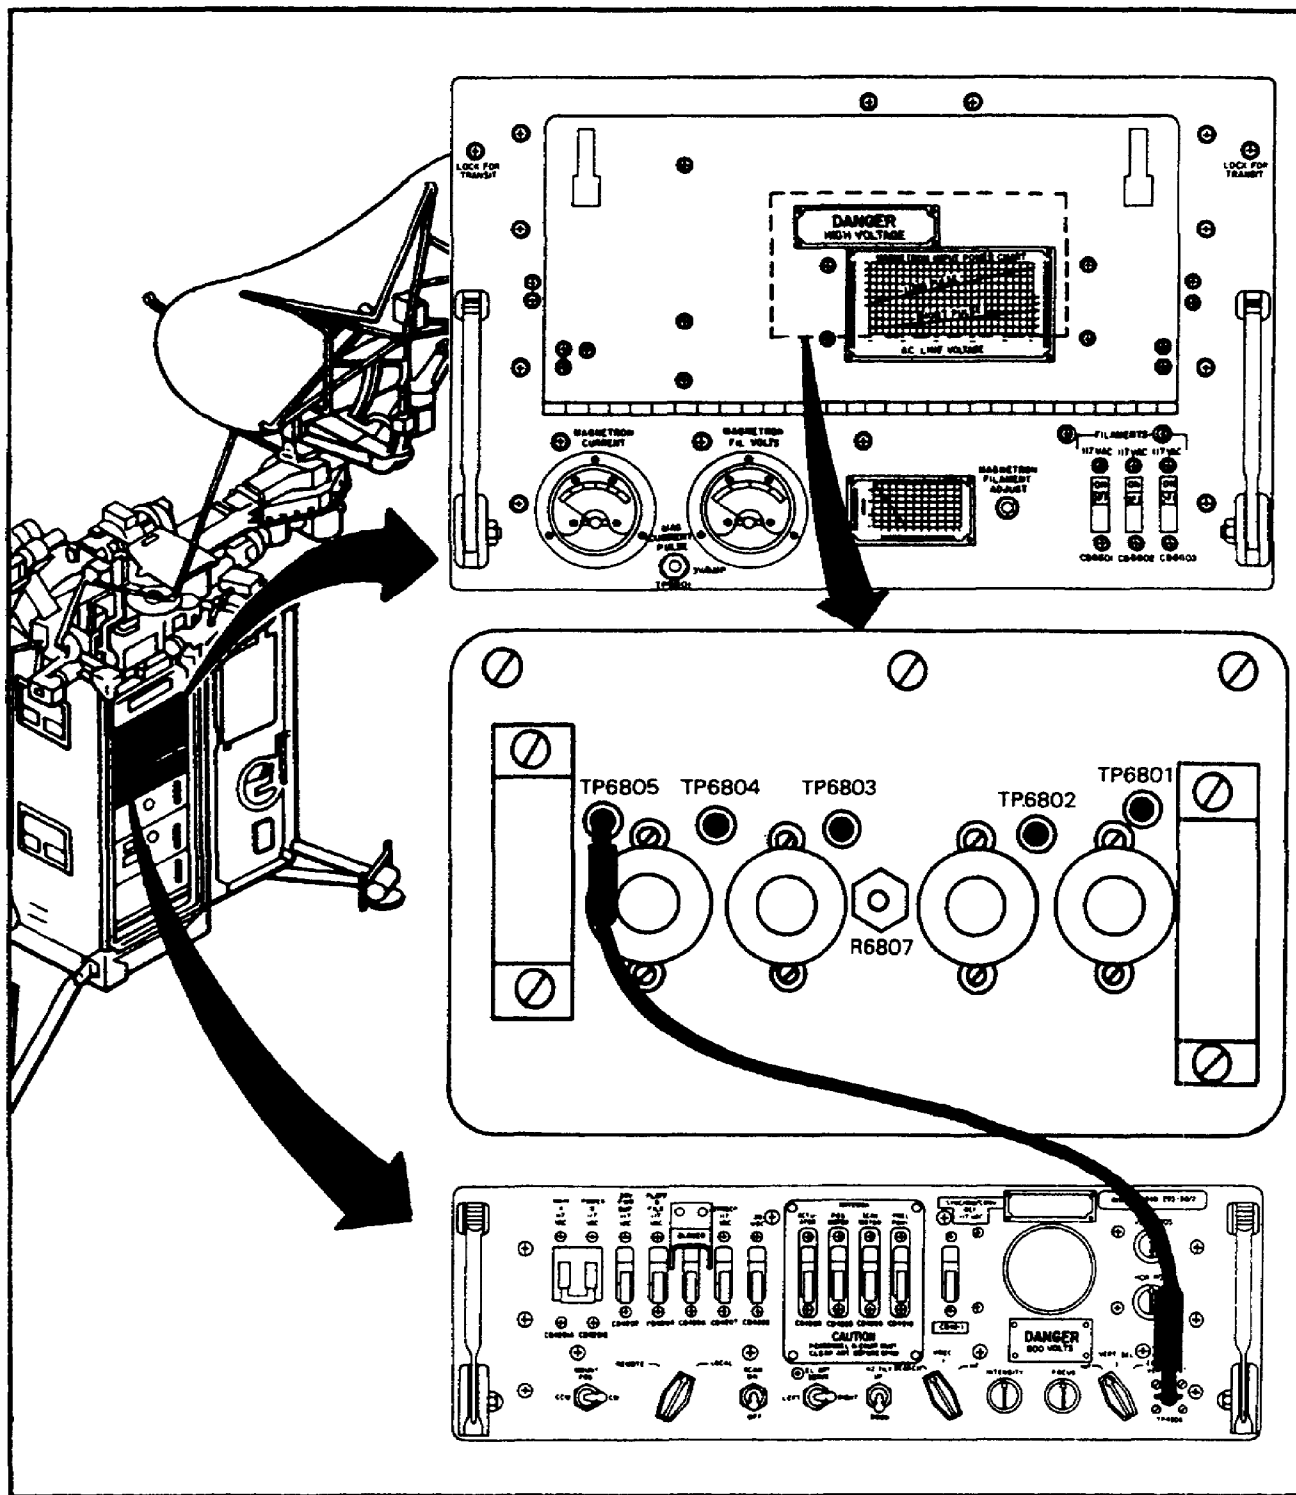

Figure 53. TP-4206 to TP-6805.
m. On control monitor C-2124/FPN-33, connect VERT input test point TP-4206 to B-trigger output test point TP-6805 on 0-1284/FPN chassis. (See Figure 53.)
- _____ VERT input test point TP-4206 on control-monitor C-2124A/FPN-33 (Figure 53)